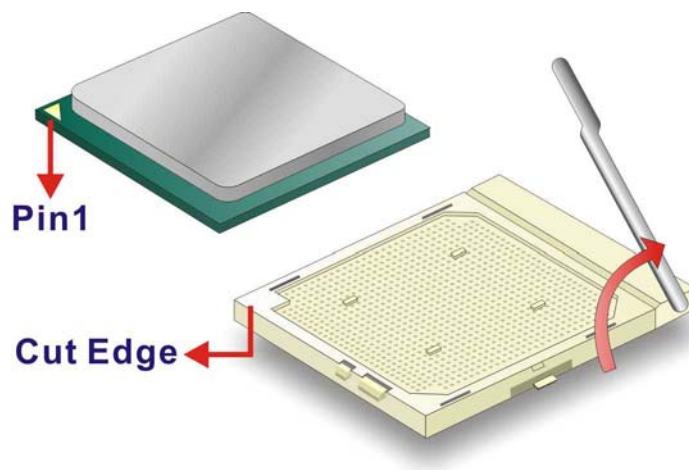

Figure 4-1: Install the CPU
- Step 2: Open the CPU socket lever.** Disengage the load lever by moving the lever slightly outward to clear the retention tab. Rotate the load lever to a fully open position. See Figure 4-1.
- Step 3: Orientate the CPU properly.** Make sure the IHS (Integrated Heat Sink) side is facing upward. See Figure 4-1.
- Step 4: Correctly position the CPU.** Match the Pin 1 mark with the cut edge on the CPU socket. See Figure 4-1.